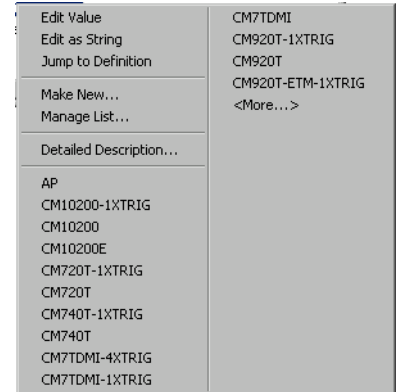

Figure 3-5 Linking a board
- Right-click on the BoardChip_name setting, in the right pane, to display the **BoardChip** context menu shown in Figure 3-5.
3. Right-click on the `BoardChip_name`, in the right pane, to display the **BoardChip** context menu shown in Figure 3-5 on page 3-13.